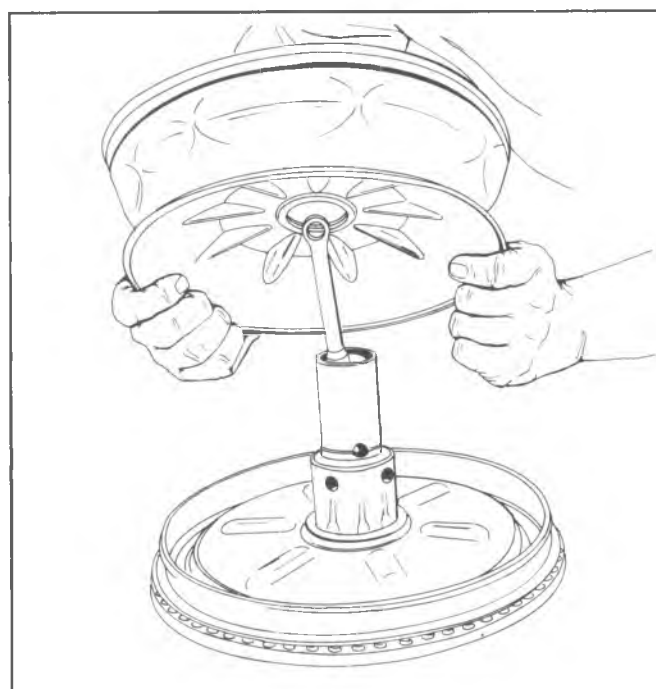

Fig. 5-7A--Installing Primary Support Plate and Diaphragm Assembly
23. Fold the primary diaphragm away from the O.D. of the primary support plate and place the primary support plate and diaphragm assembly over the power piston and push down until it bottoms (fig. 5-7A).